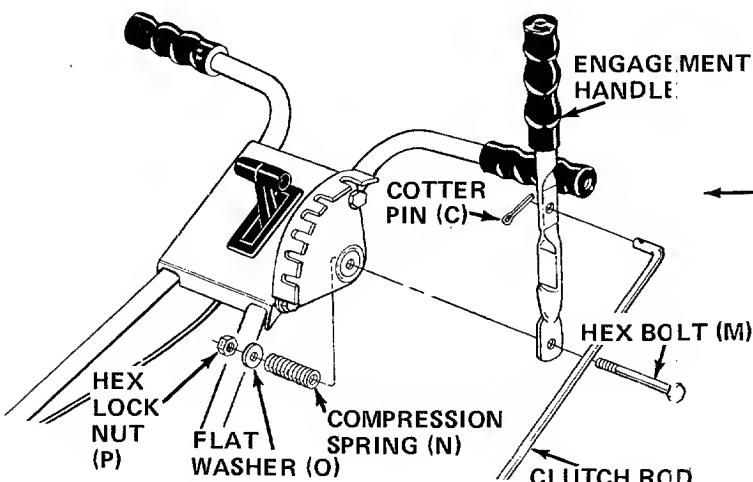

FIGURE 9
- Place hex bolt (M) through bottom hole in engagement handle as shown in figure 9, then through hole in adjustment bracket.
- Secure hex bolt with compression spring (N), flat washer (O) and hex lock nut (P) on the inside of the adjustment bracket.
- Secure bent end of clutch rod half to engagement handle with cotter pin (C). See figure 9.